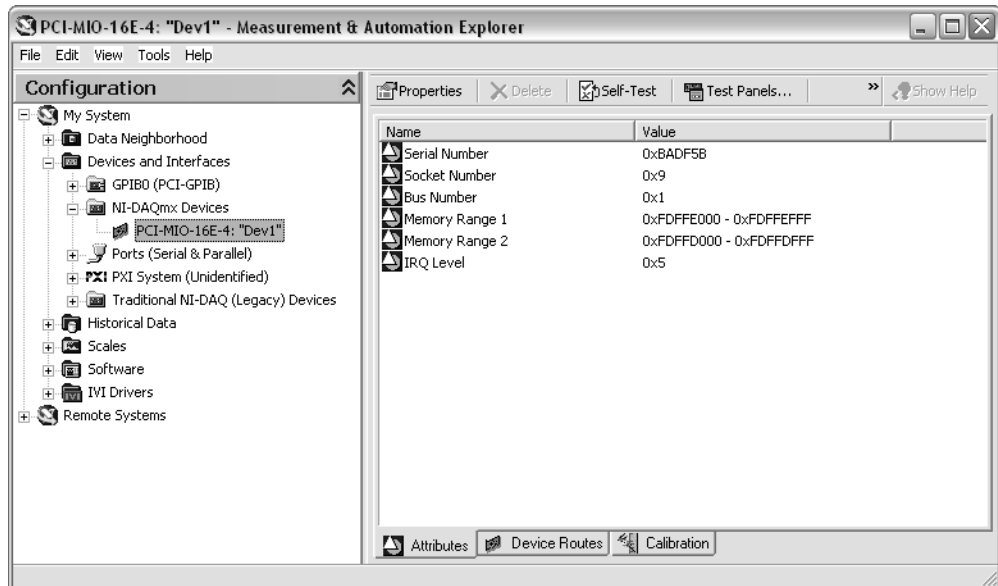

Figure 8-3. MAX with Device and Interfaces expanded
5. Select the device listed in the **NI-DAQmx Devices** section. Figure 8-3 shows the PCI-MIO-16E-4 device.